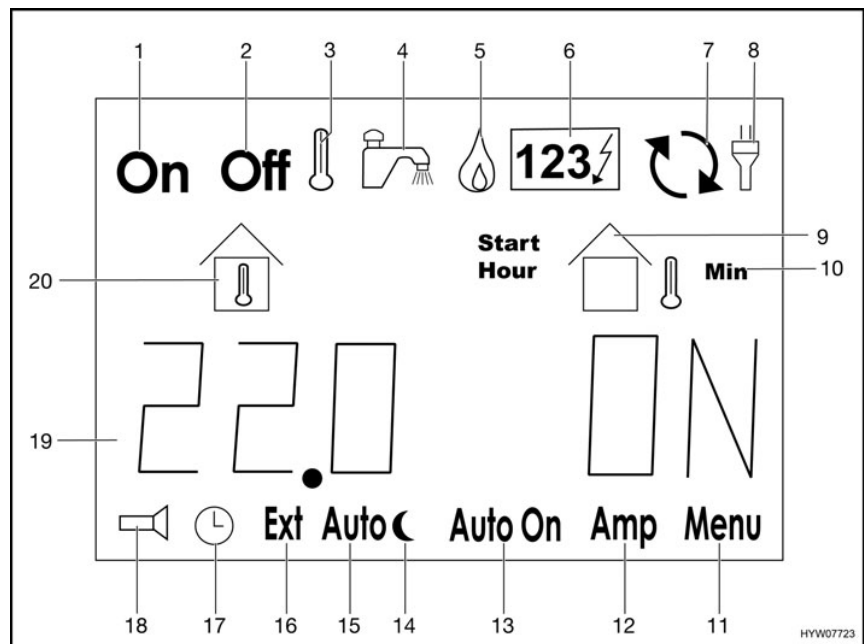

Fig. 66 LCD displays
Details about temperatures, times and operating states or even error messages are displayed as text in the Information line (Fig. 66,19).
- Press the "▷" button (Fig. 65,4). The "Off" symbol (Fig. 66,2) flashes.
- Press the "+/On" button (Fig. 65,3). The "On" symbol (Fig. 66,1) flashes. The heater starts automatically.
- Press the "▷" button (Fig. 65,4). The "On" symbol (Fig. 66,1) flashes.
- Press the "-/Off" button (Fig. 65,5). The "Off" symbol (Fig. 66,2) flashes. The heater is turned off.